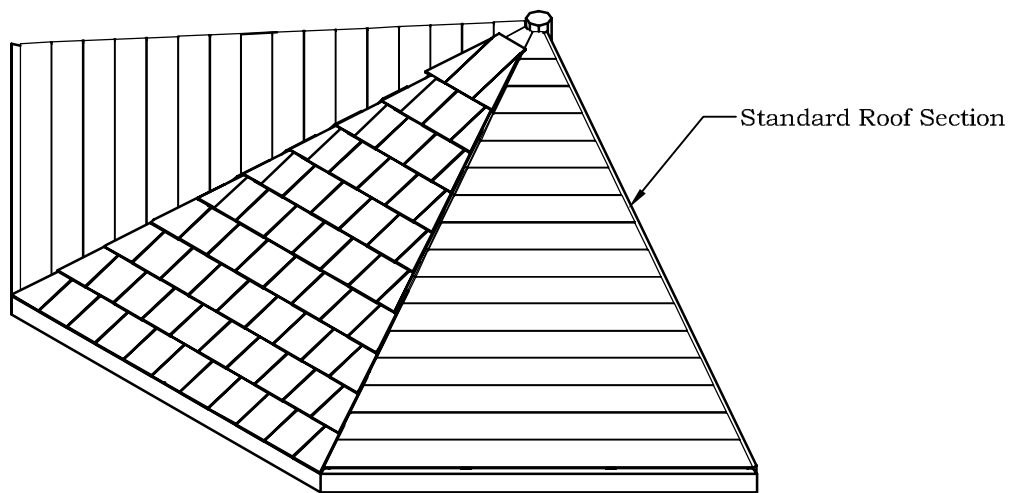
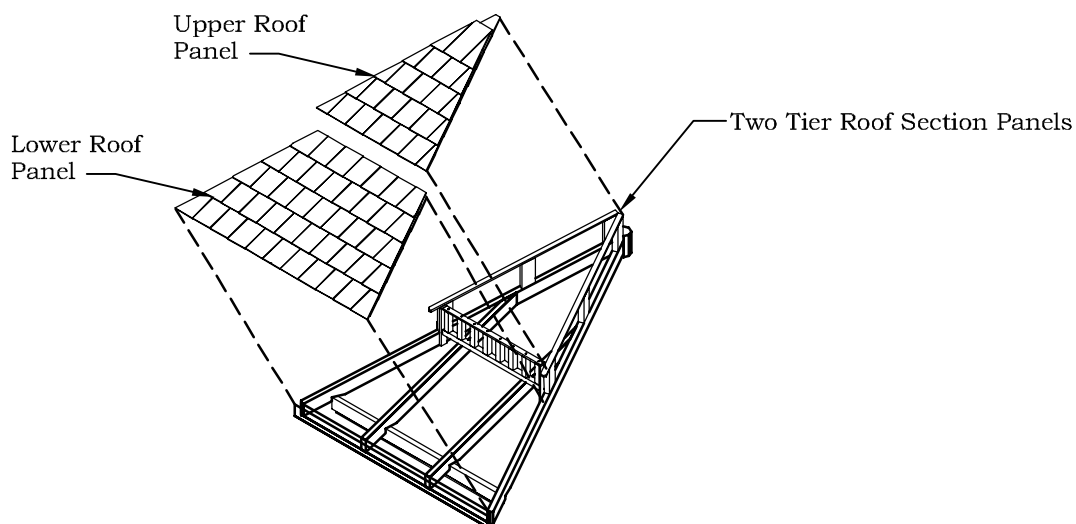

FIGURE S22
FIGURE S23
- The pre-assembled Roof Panels have been completed for your convenience. Place them clock-wise on top of the Roof Rafter Assembly. See Figure S22. If you have a Two Tier Roof you will be required to place 12 panels down for Hexagon and 16 panels down for Octagon. Start with the lower sections first. See Figure S23.